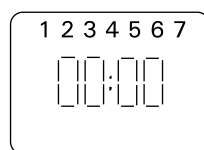

Figure 4. Obrázek 4.
- This will remove any erroneous data contained within the clock. After resetting, the screen will remain according to the diagram 3 for a while, but then the numbers 1–7 representing the days of the week will start to flash in the upper part of the screen. (Fig. 4)